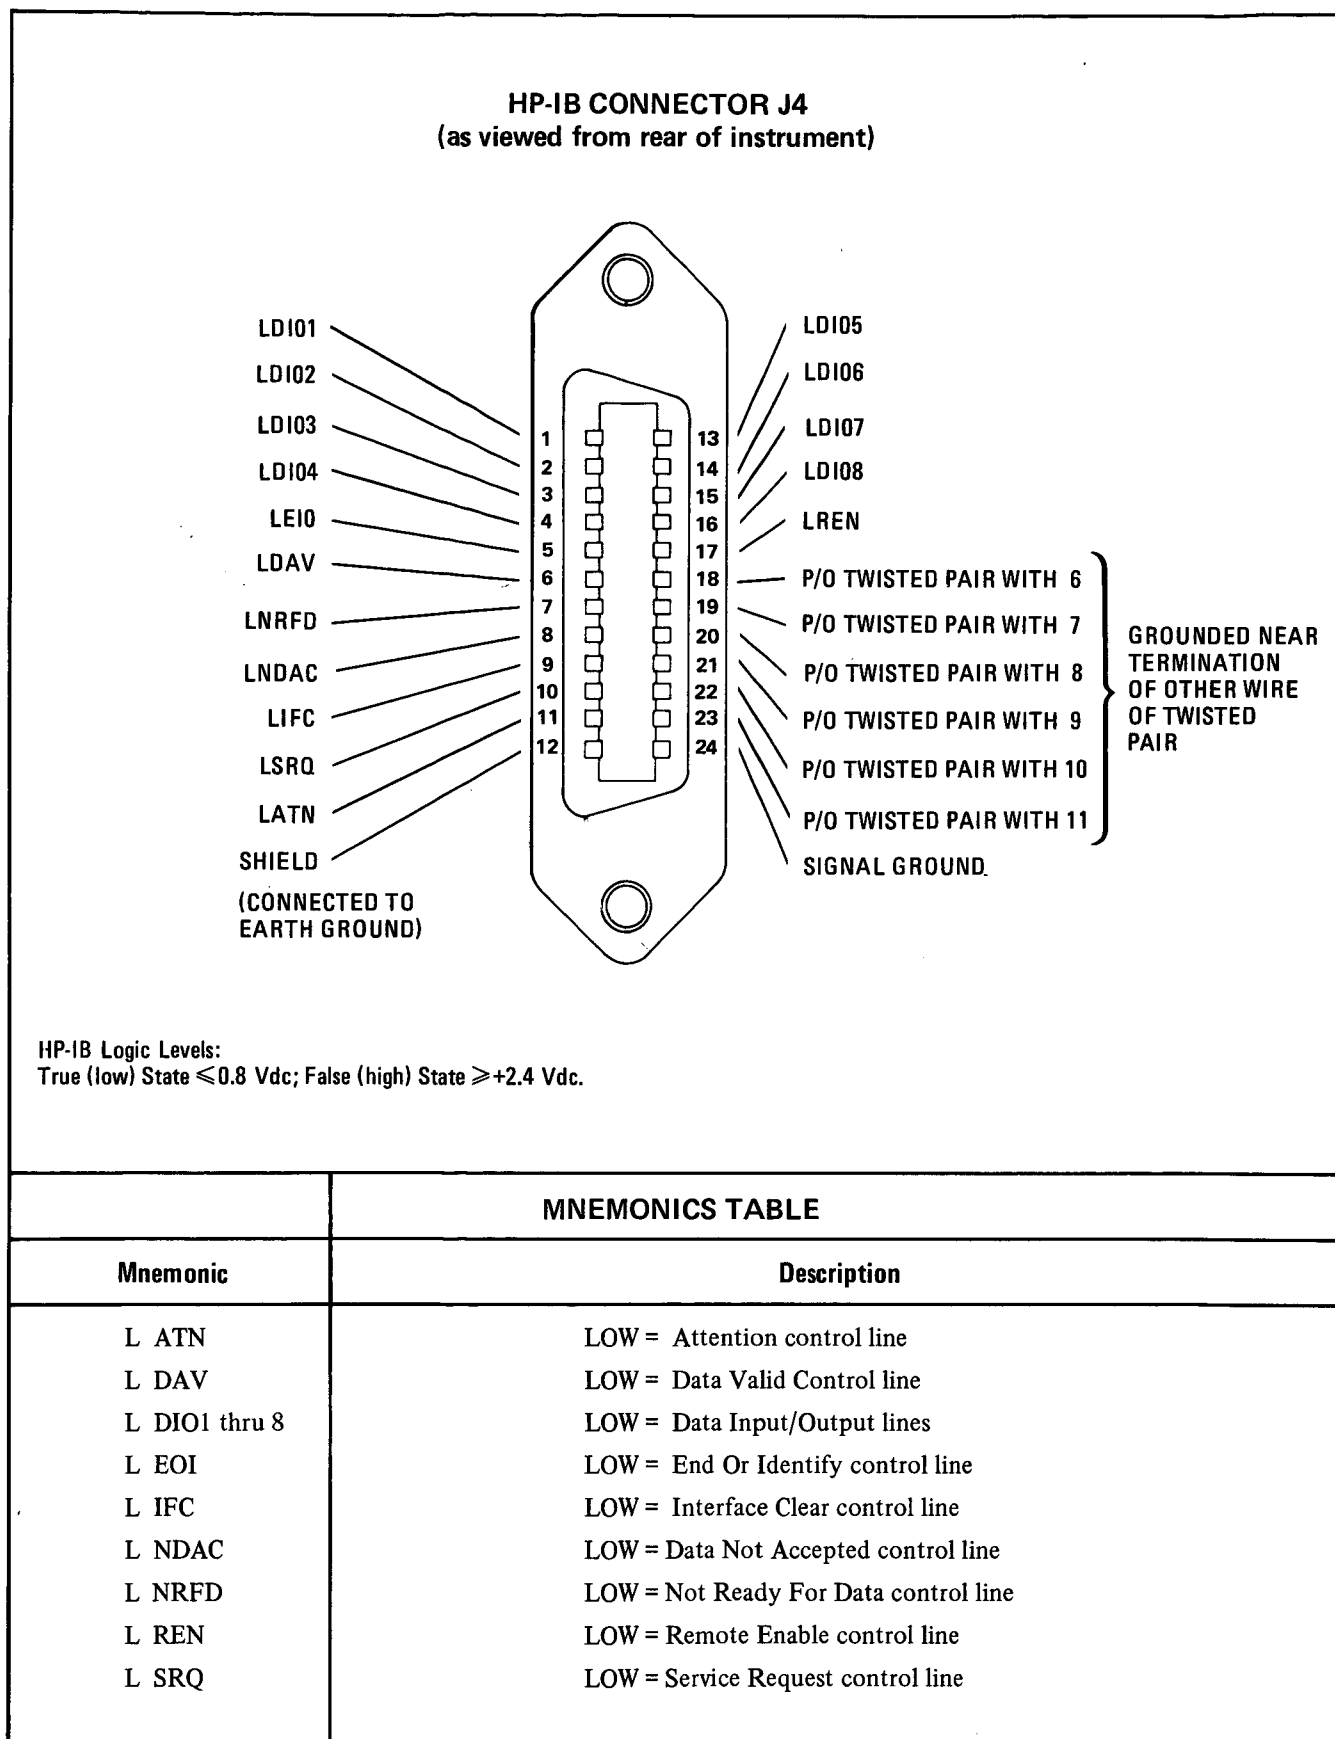
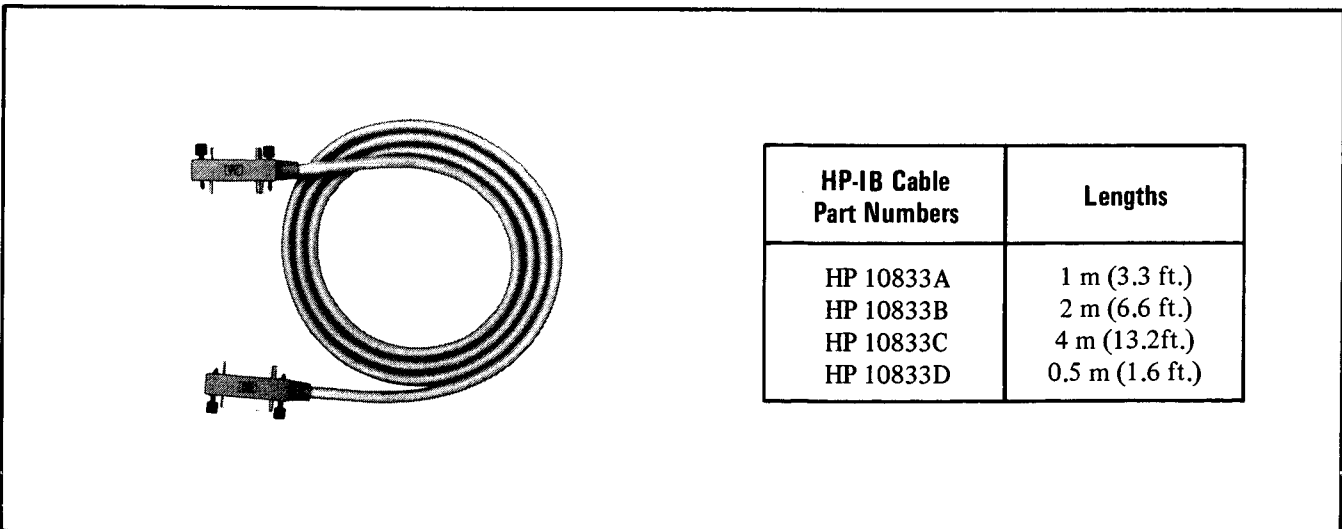

Figure 2-5. HP-IB Connector Signals and Pin Configuration
Figure 2-6. HP-IB Interface Cables Available
2-29. The HP-IB Interface Connector J4, located on the rear panel of the Model 8350A, allows the sweep oscillator to be connected to any other device on the HP-IB Interface Bus. A complete illustration of pin configuration and signals on the HP-IB Interface connector is given in Figure 2-5.
2-30. All instruments on the HP-IB Interface Bus are interconnected by HP-IB Interface Cables. A list of the available HP-IB Interface Cables and their part numbers is given in Figure 2-6. As many as 15 instruments can be connected in parallel on the HP-IB Interface Bus. To achieve design performance on the bus, proper voltage levels and timing relationships must be maintained. If the system cable is too long or if the accumulated cable length between instruments is too long, the data and control lines cannot be driven properly and the system may fail to perform. Therefore, the following restrictions must be observed:
*Refer to Figure 2-6 for HP-IB Interface Cable information. HP-IB Interface connector J4 signals and pin configuration are given in Figure 2-5.